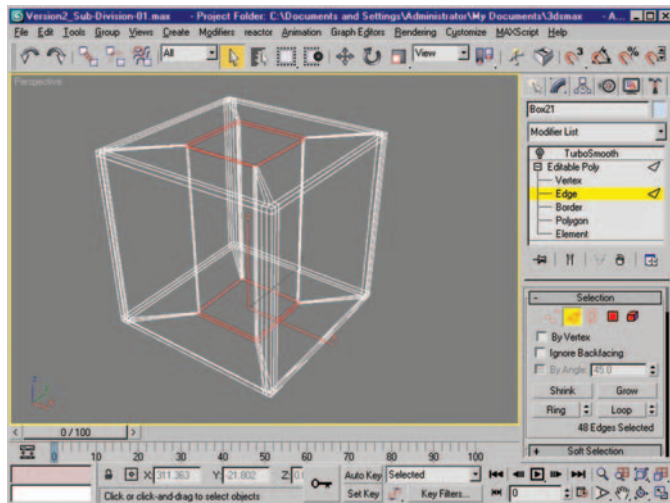

Figure 6.39 Edges chamfered with a value of 0.18.
5. Switch your viewport to Wireframe mode, and select the top and bottom edge loops. Select a single edge from each loop and hit Alt+L on your keyboard. Chamfer the loops with a value of 0.18. Figure 6.39 shows the result of the selection and the chamfer.